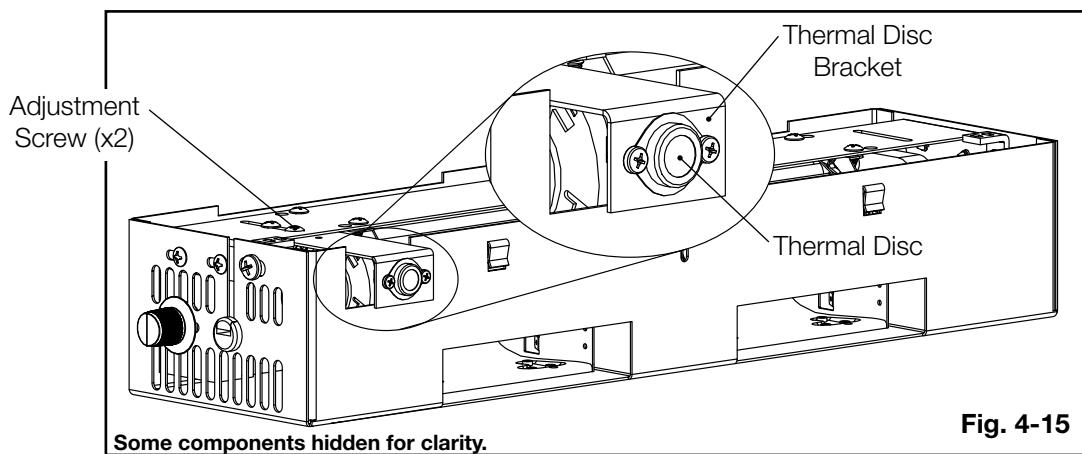

Fig. 4-15
- F. Loosen the adjustment screws, then slide the thermal disc bracket until the thermal disc is touching the face of the firebox (**Fig. 4-15**).